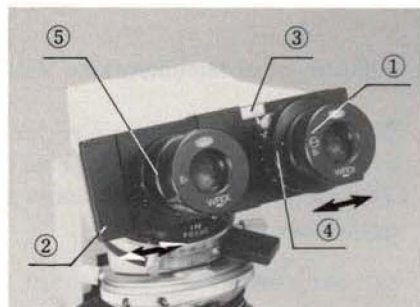

Fig. 3
2) Looking through the right eyepiece (with cross hairs) with your right eye, rotate the diopter adjustment ring ① until the cross hairs are sharply focused. (Fig. 3)
3) Looking through the both eyepieces with both eyes, adjust the interpupillary distance, sliding the knurled dovetail slides ② of the right and left eyepiece tubes, until perfect binocular vision is obtained.
4) Memorize your interpupillary distance setting by reading the scale ③.